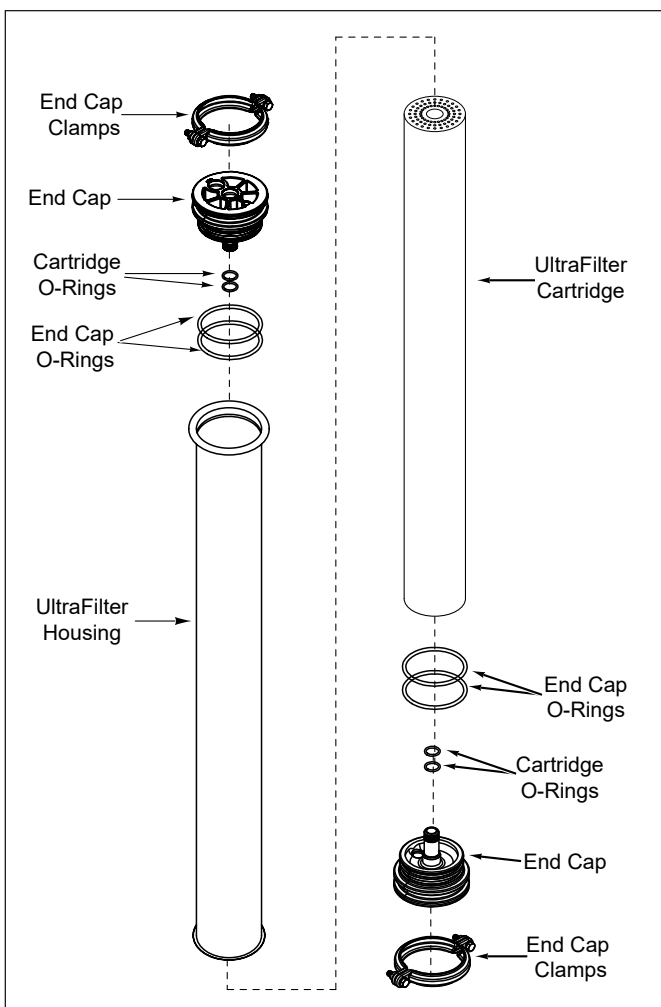

Figure 9. Replacing the Ultra Filter Cartridge
4. Remove either End Cap clamp hardware from the Ultra Filter Housing. (Figure 9)
7. Remove the End Cap (Figure 9) from the Ultra Filter Housing.